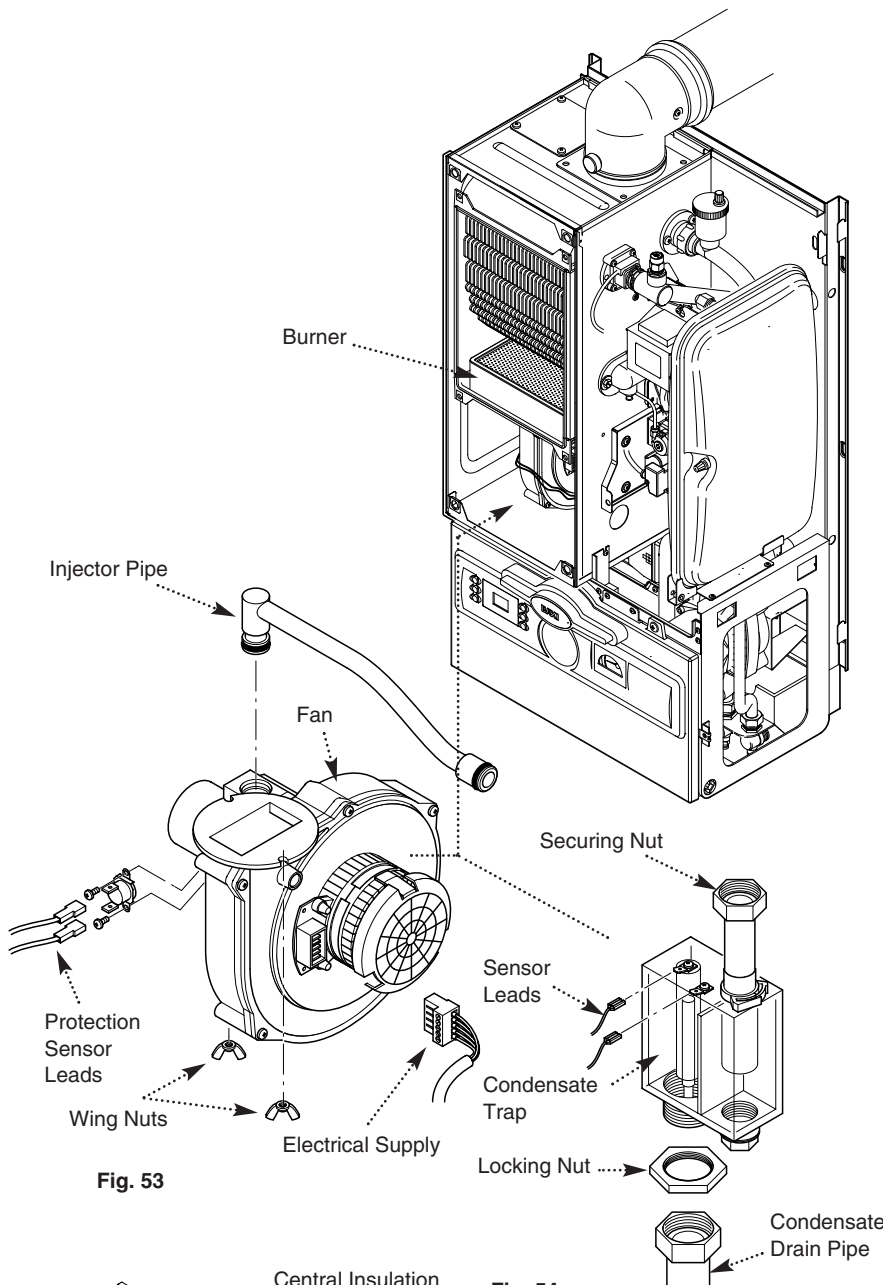

Fig. 53
- a) Disconnect the electrical leads to the fan component protection sensor (Fig. 53).
- b) Undo the two wing nuts to disconnect the fan (Fig. 53).
- c) Remove the fan and disconnect the electrical supply to it (Fig. 53).
- d) Remove the gas injector pipe from the gas valve (push-fit) (Fig. 53).